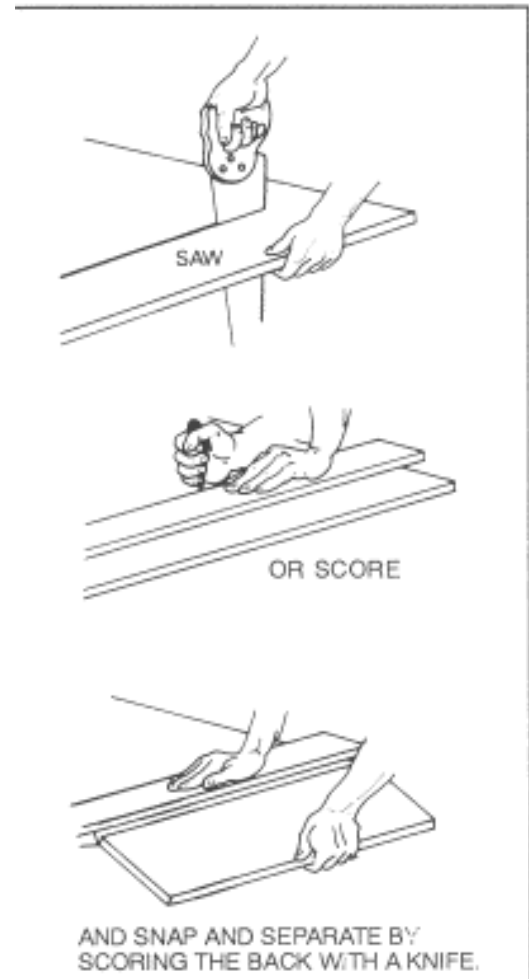

Figure 9-5. Cutting sheetrock
- The utility knife is used to score or cut the sheetrock (Figure 9-5).